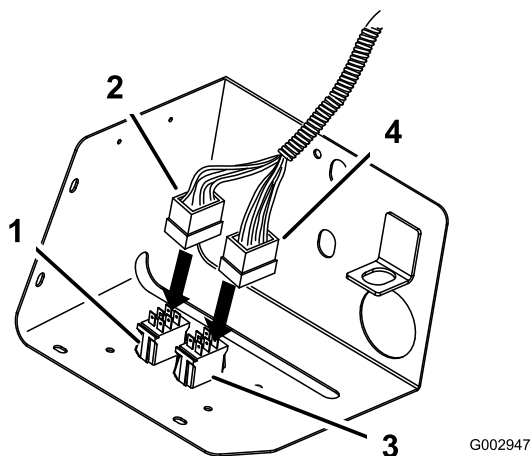

Figure 29
14. Connect the connector with mostly green and yellow wires to the spray selection switch (toggle style switch) (Figure 29).
15. Connect the connector with the multi-colored wires to the rate control switch (momentary switch) (Figure 29).